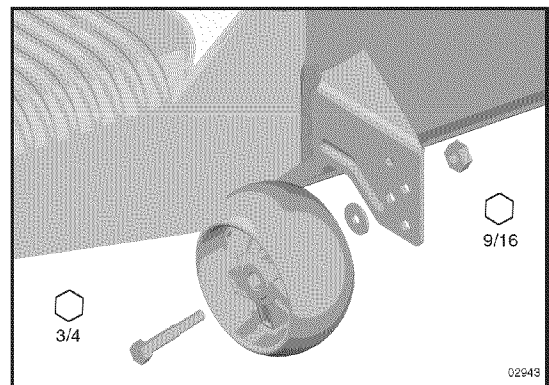

Fig. 22
## TO ADJUST GAUGE WHEELS (See Fig. 22)
- When mowing large areas, start by turning to the right so that clippings will discharge away from shrubs, fences, driveways, etc. After one or two rounds, mow in the opposite direction making left hand turns until finished (See Fig. 22).